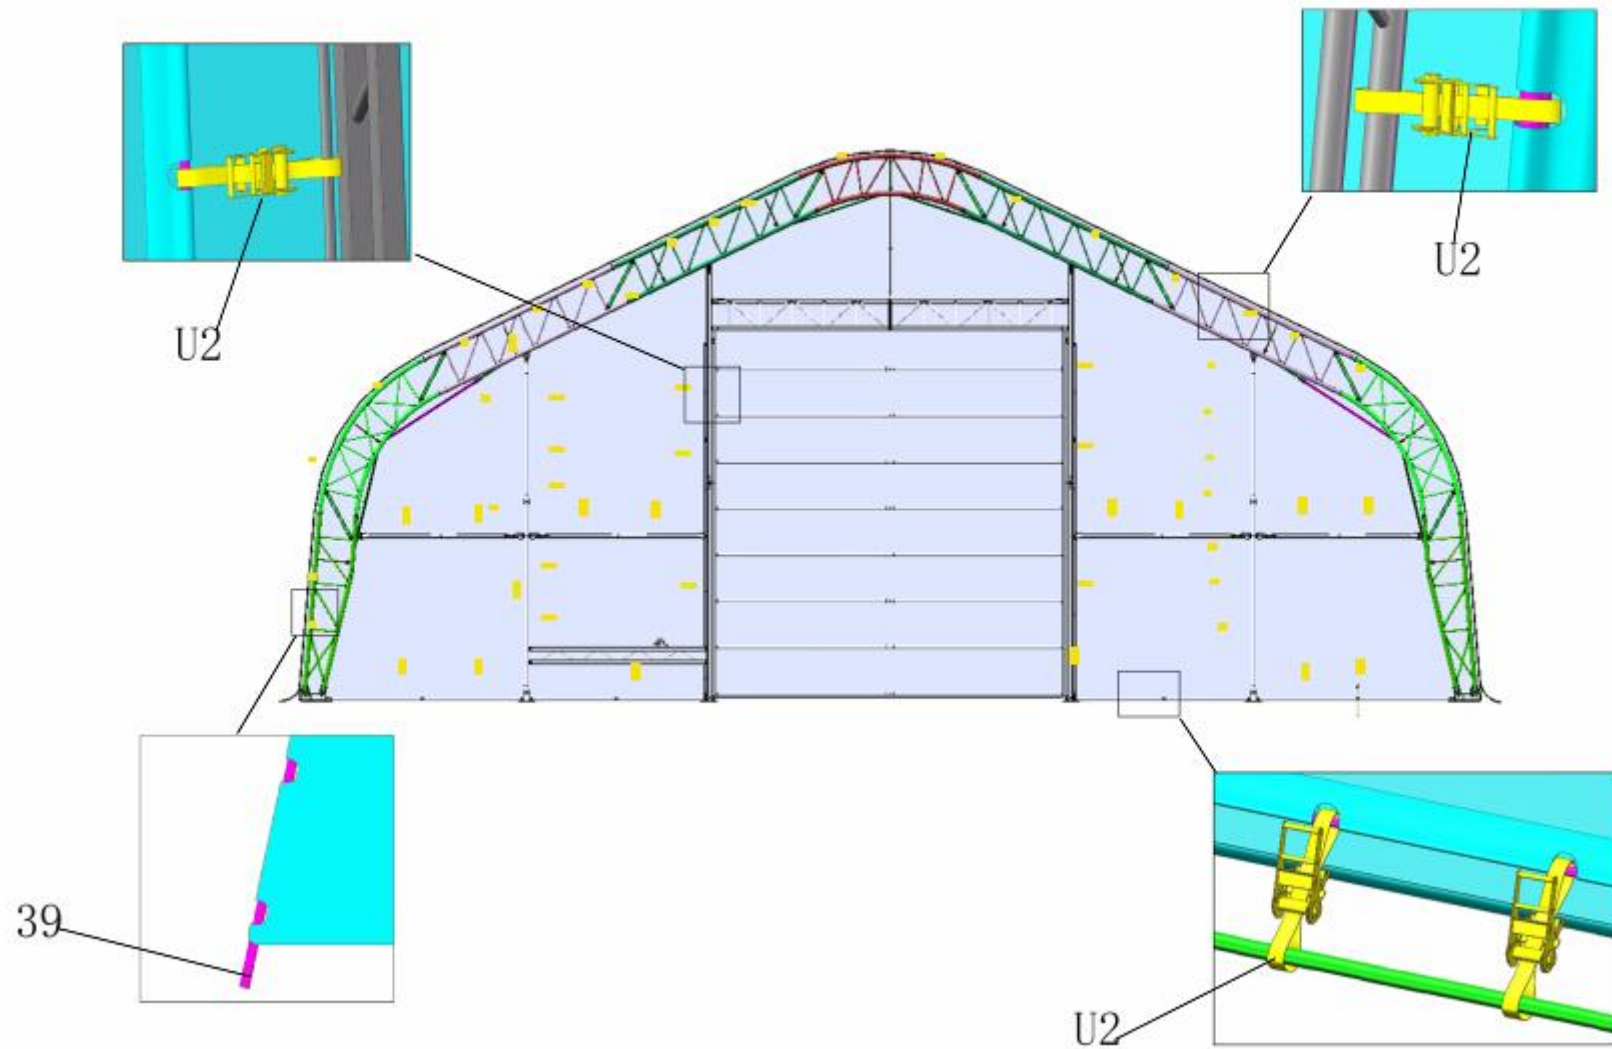

Figure 11
4. When you close the door, we can use the Lock steel wire for door (No. 29) and Lock steel wire for the wrench handle to fix. (Figure 11)